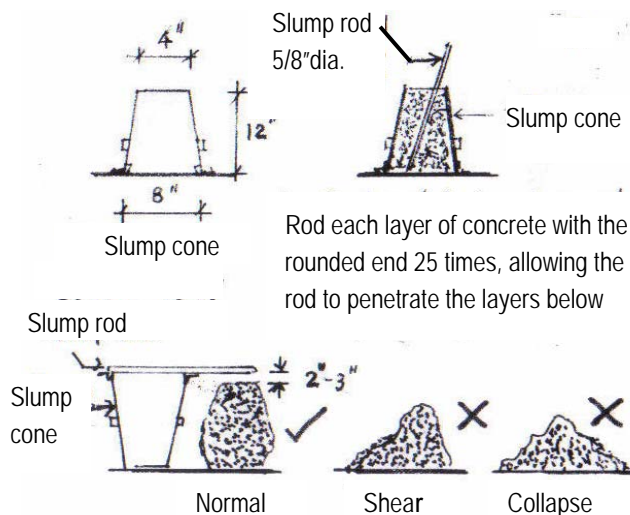

Fig 7 - **Slump test**
- Made sure that a sample of each mixed batch of concrete is tested by using the slump test (standard method used to verify vertical depth to which the wet concrete mix subsides) and all samples that fail the test are rejected (See fig. 7)
- Used only the batches of mixed concrete that show a normal slump form (See fig. 7)